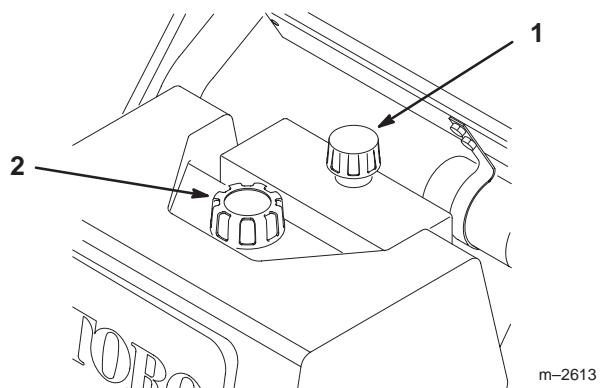

Figure 31
2. Clean area around filler neck and cap\dipstick of hydraulic tank (Fig. 31).